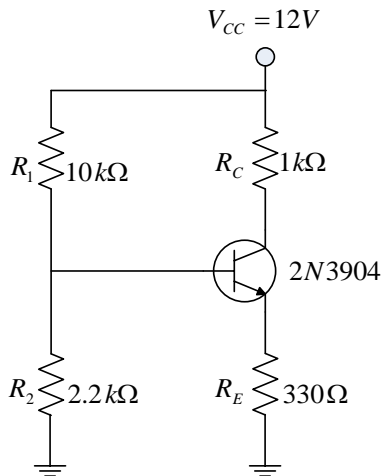

Fig 9.2 Circuit diagram
1. Connect the circuit components as shown in Fig 9.2. After connecting the circuit components apply V_{CC} and then set $V_{CC} = 12 V$